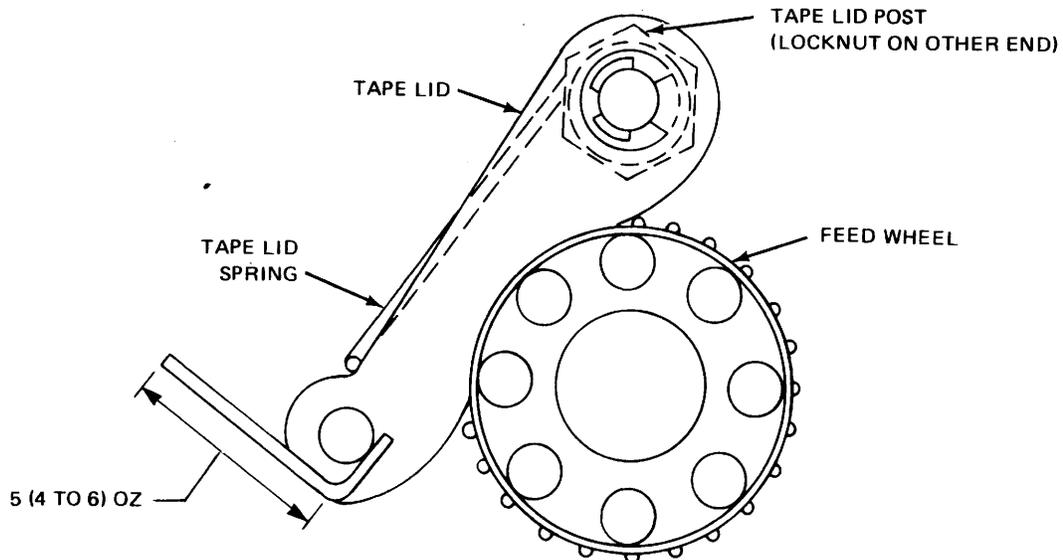

Figure 6-29. Tape Lid Spring Adjustment.
6-28. Punch Code Hole Interval Adjustment. The punch code hole interval adjustment consists of adjusting the tape lid spring, feed ratchet detent arm, feed ratchet detent arm spring, feed pawl spring, feed pawl link, and wedge block. To adjust the punch code hole interval, perform the turnoff procedure (refer to paragraph 6-24, step 2); see figures 6-29, 6-30, 6-31, and 6-32; and proceed as follows:
- 2. Adjust tape lid spring (see figure 6-29).